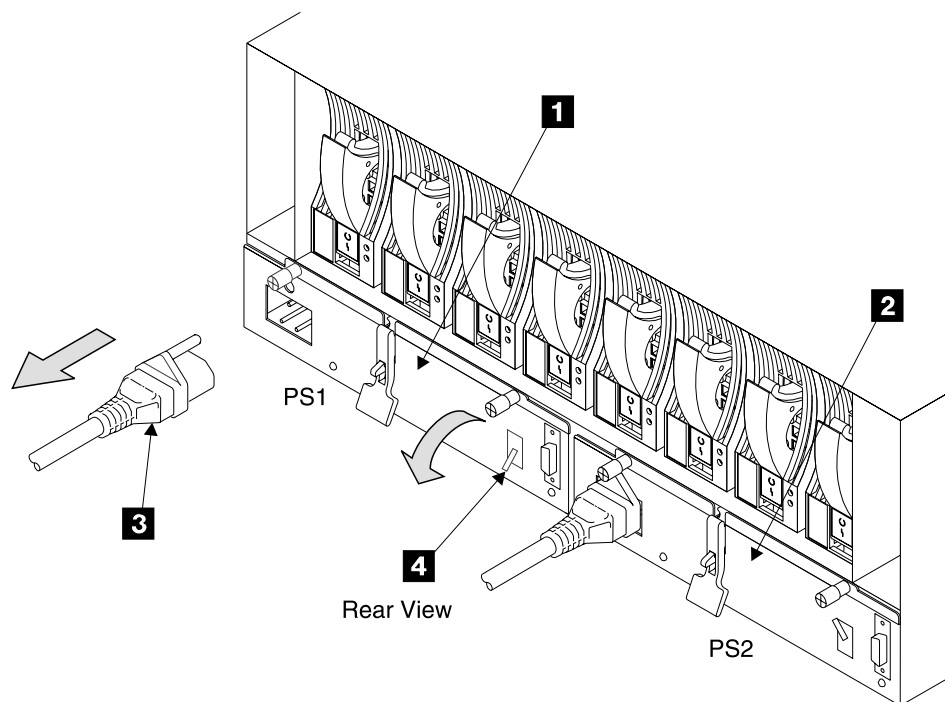

Figure 44. Model 040 Drawer Power Supply Assembly Locations (t007576m)
2. Power off both power supply assemblies in the Model 040 drawer. Pull both PWR/FAULT RESET switches, **4** in Figure 44 on page 64, out then push them down.